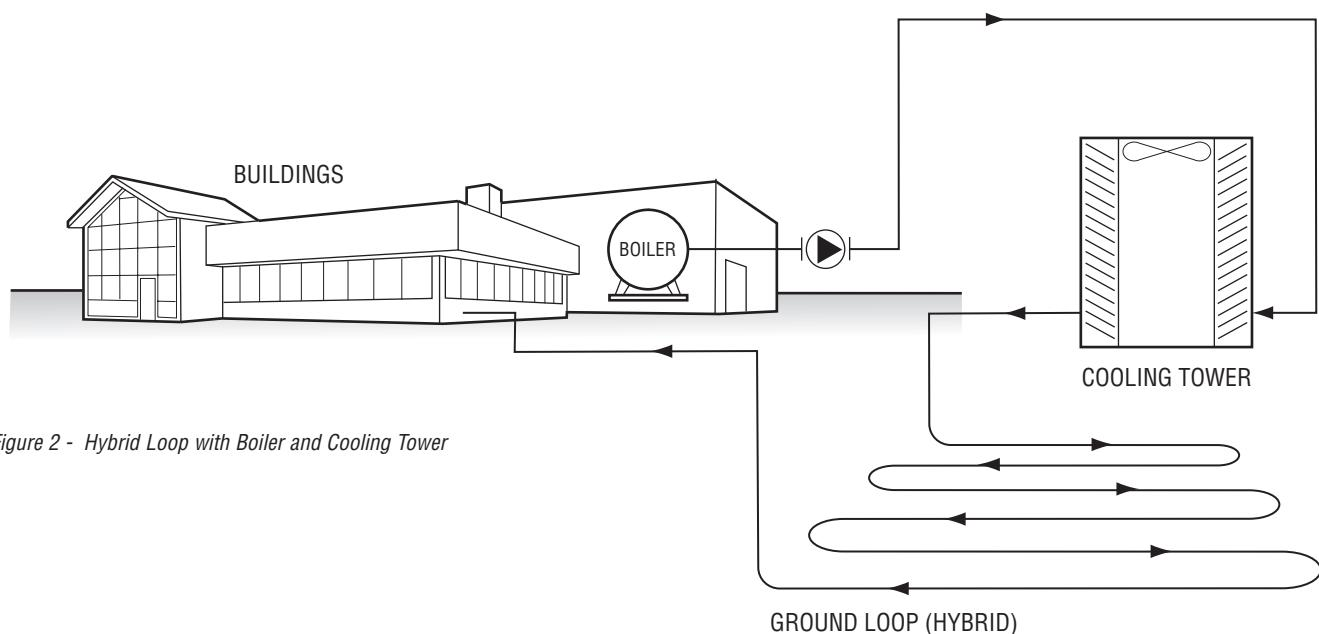

Figure 2 - Hybrid Loop with Boiler and Cooling Tower
Many hybrid loops are being developed to help reduce the length of piping installed in the ground. The earth handles the majority of the load, but a boiler is installed to lend support during peak heating times, and a cooling tower or chiller is installed to assist during maximum cooling times. (Refer to Figure 2.)
- 4.) Ground Loop (Hybrid) - Boiler/tower water loop system. - (Figure 2)**